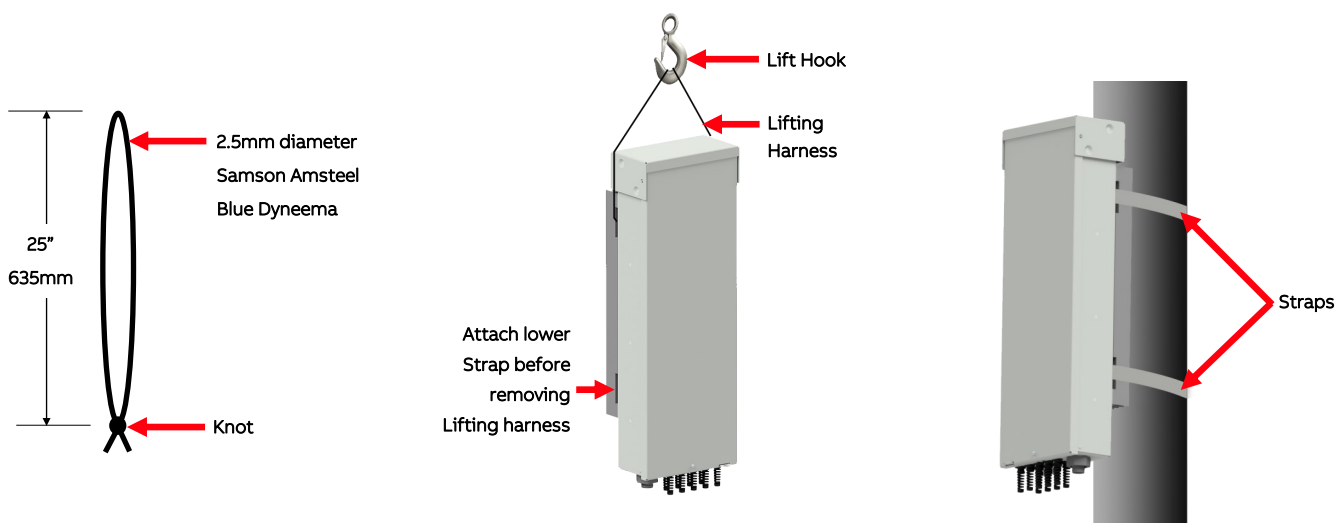

Figure 3 Mounting unit to pole
**Note:** If the rectifier is being mounted overhead (or above 10 ft.) use a hoist and harness to reduce the chance of serious injury. The recommended harness is approximately a 25 inch loop of 2.5mm diameter Samson Amsteel Blue Dyneema, or equivalent. This loop is made by taking a 55 inch length and joining the ends together via an appropriate knot (Figure 3 or water knot are two suggestions) as shown in the view below.